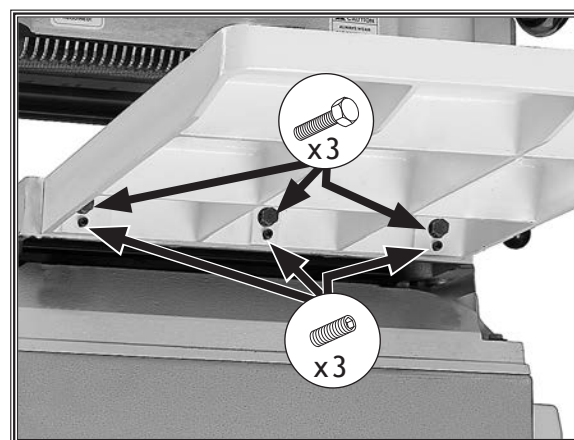

Figure 9. Extension table mounting locations.
1. Attach each cast-iron extension table (see **Figure 9**) to planer table with (3) M8-1.25 x 25 hex bolts. Do not fully tighten hex bolts at this time.
2. Thread (3) M8-1.25 x 20 set screws into each extension table at locations shown in **Figure 9**.